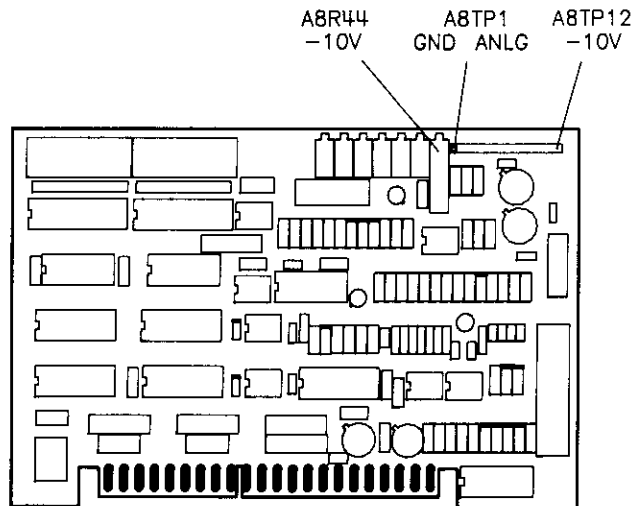

Figure 5-1. -10V Reference Adjustment Location
2. Adjust A8R44 (-10V) for a DVM reading of  $-10 \pm 0.001$  VDC. Refer to Figure 5-1 for -10 volt reference adjustment location.